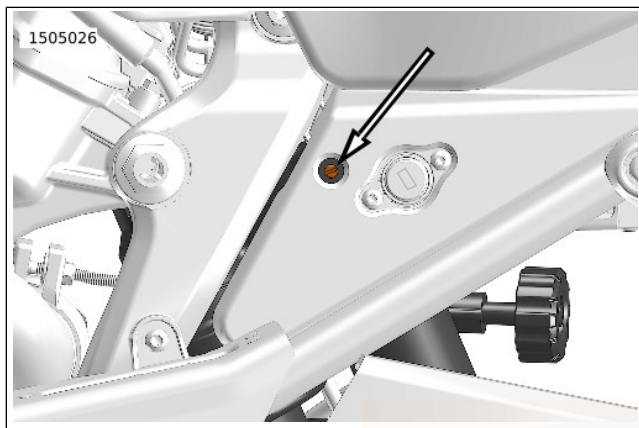

Figure 16. Compression Adjuster
1. See Figure 16. Use a flat blade screwdriver to turn compression adjuster clockwise in the H (hard) direction until it stops. This is the maximum compression damping setting.